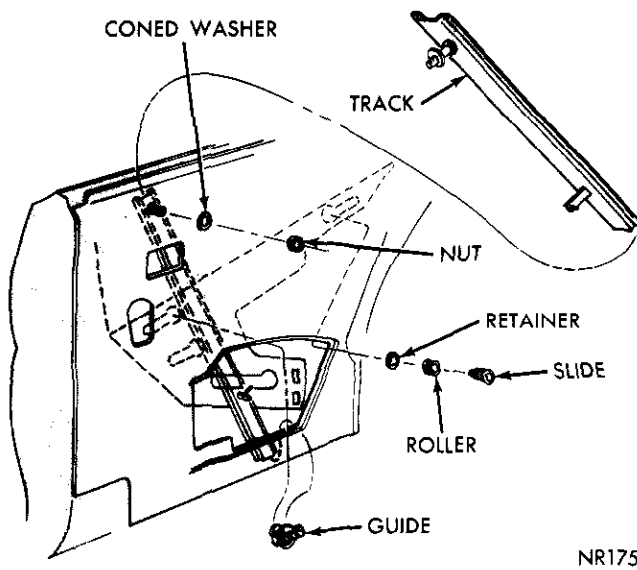

Fig. 58—Quarter Window Front Track—Hardtop
(1) Remove screws and washers attaching front track brace (Fig. 58) to inner panel and front track and remove brace.
(2) Remove nut and washer attaching front track upper end to the inner panel.
(3) Remove front track rollers and remove front track.
(1) Position front track into panel and insert sleeve nut at top of track into inner panel opening.
(2) Install sleeve nut lockwasher and nut, do not tighten.
(3) Position brackets and guide (Fig. 58) onto bottom of track and slide up into position into forward upper and lower slots of glass lower frame.